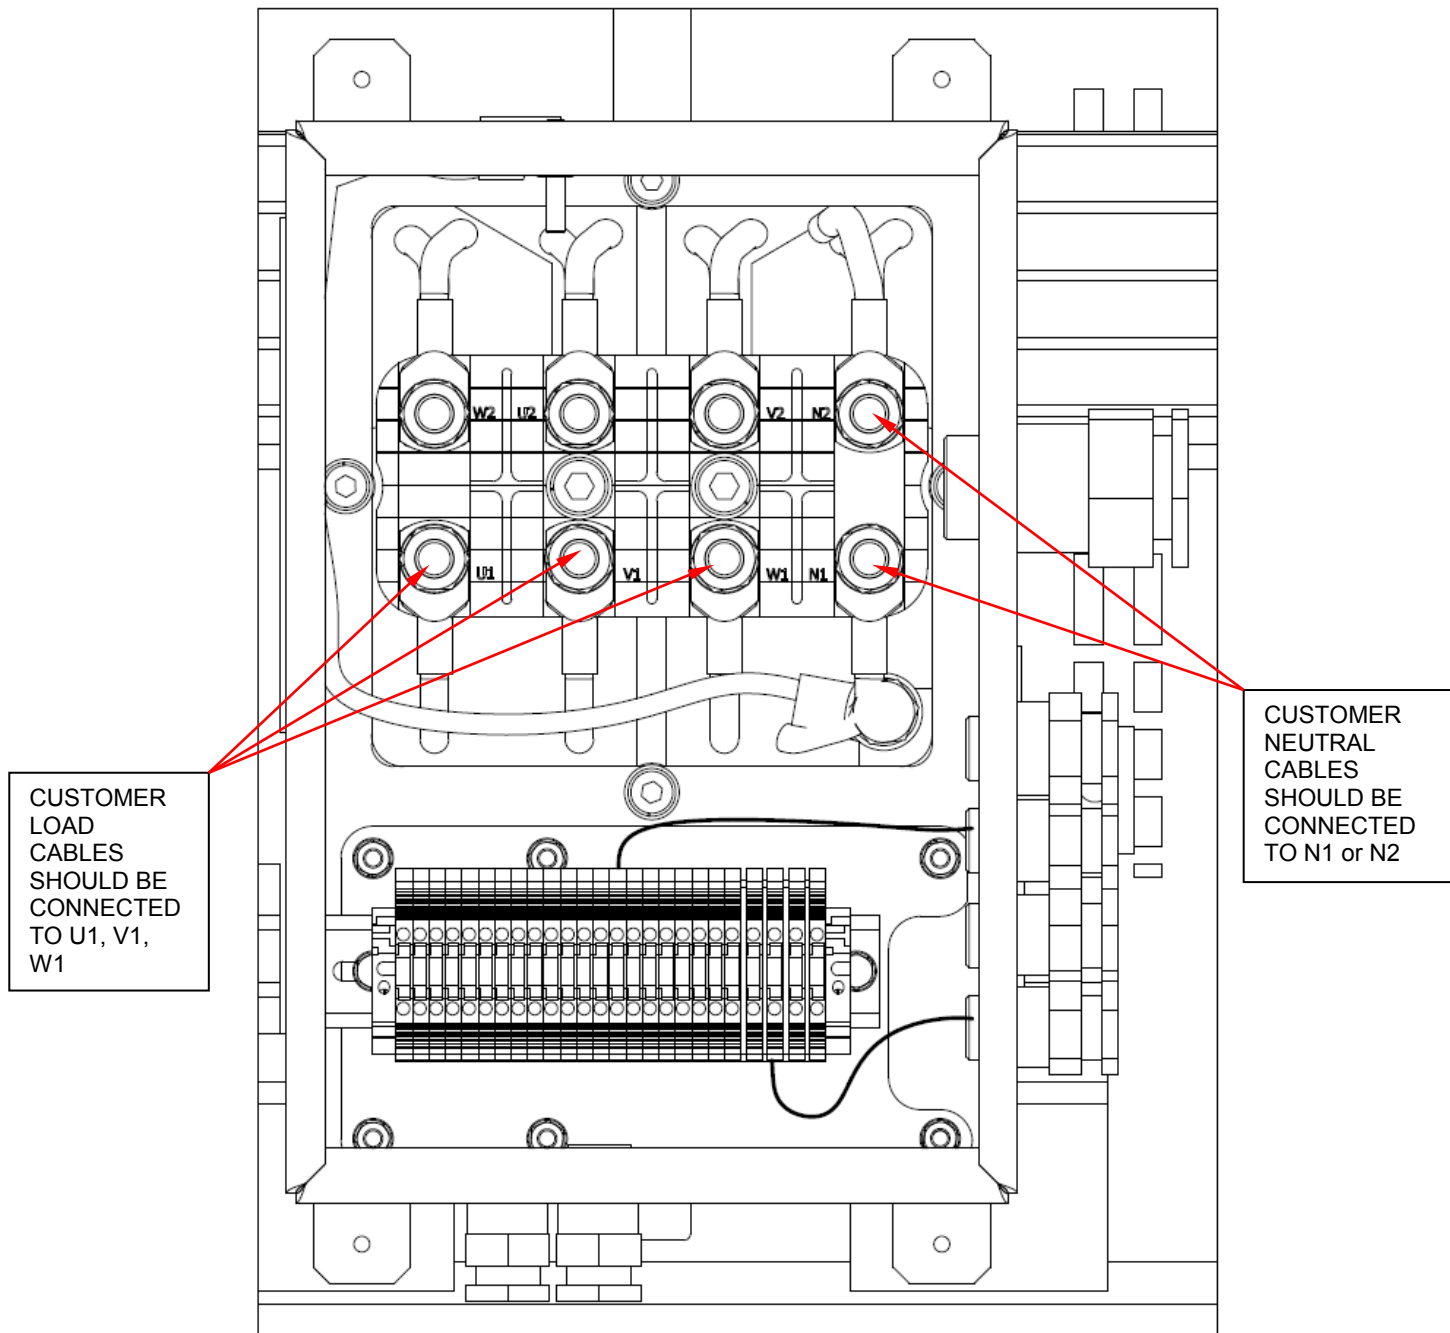

Figure 21 – Customer Load Connections
- N1-N2 has a neutral jumper fitted under the lower washers (refer to Figure 21).